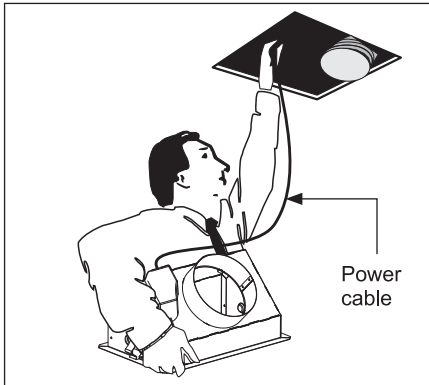

Fig. 19
3. Feed ducting and blower through hole in ceiling directing it towards the installation position of the outlet grille. Position blower so that the short length of ducting and power supply cable (models 34601) is sitting next to the hole as per Fig. 19.